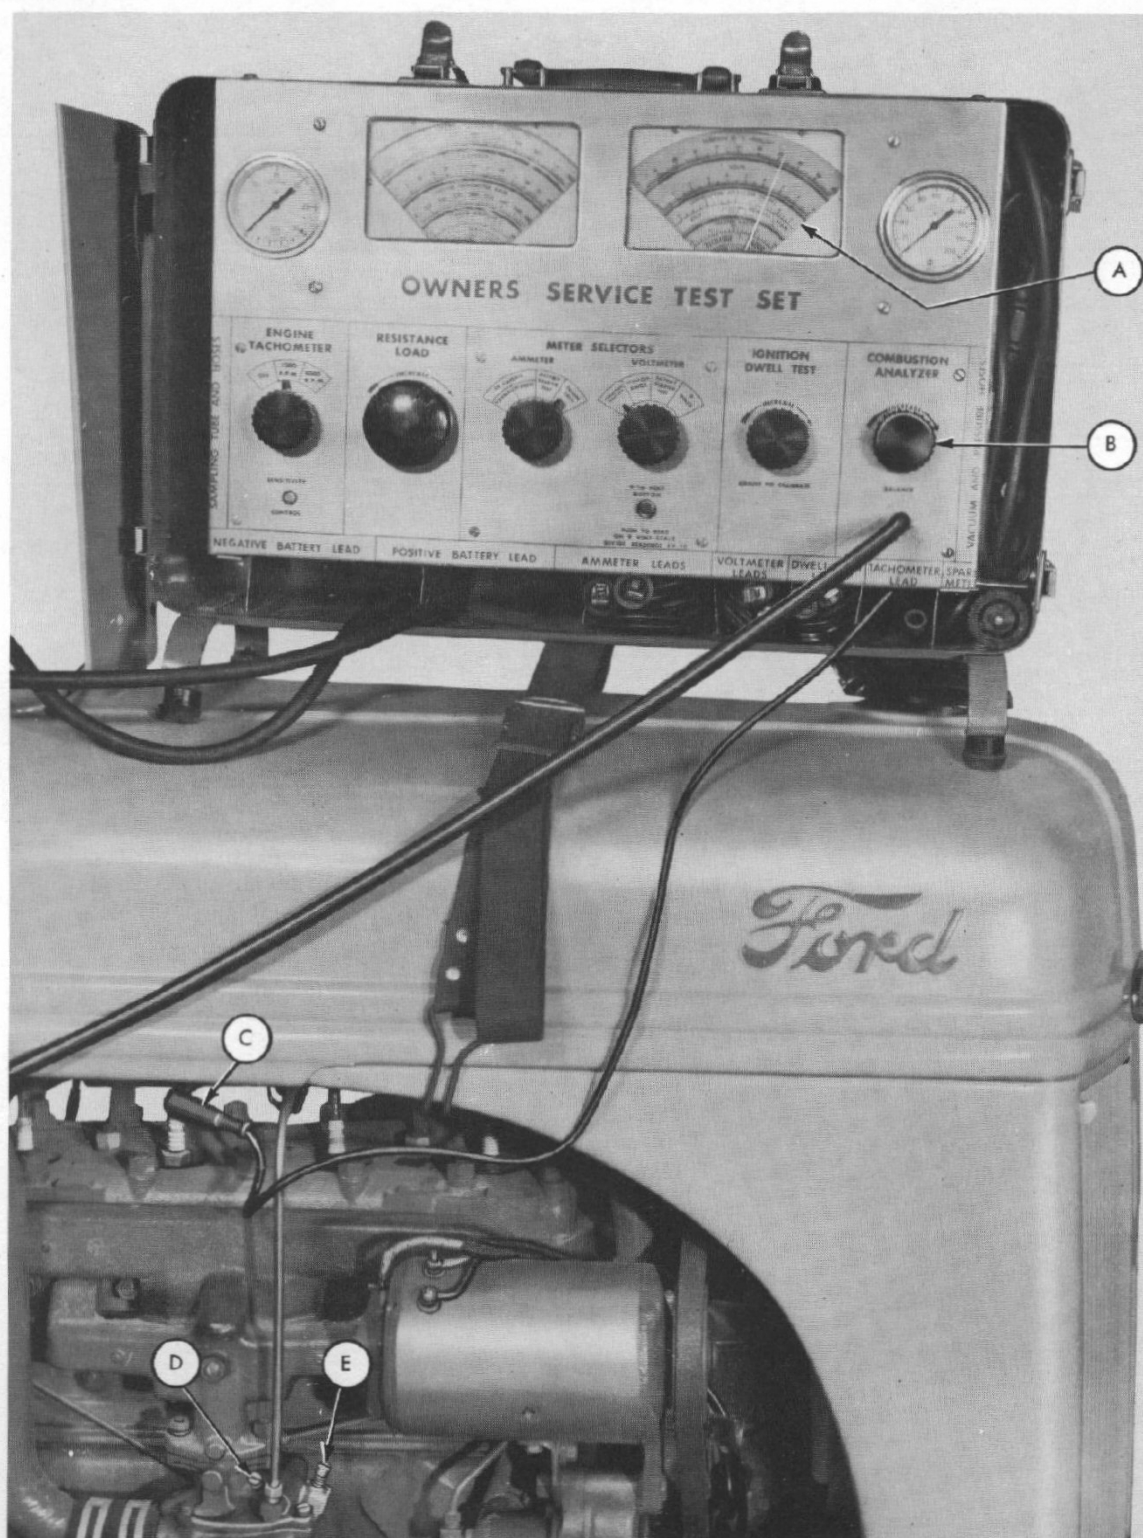

Fig. 17
- Step 2—Attach the tachometer lead to one of the spark plugs as shown at (C-Figure 17).
- (A-Figure 17) by adjusting the combustion analyzer knob (B-Figure 17) to the balance point on the scale.
- Step 6—Open the carburetor main jet (E-Figure 17) one full turn to assure a rich mixture of fuel.
- Step 7—Adjust the carburetor idle jet (D-Figure 17) in or out until the highest stable reading is noted on the tachometer.
- Step 9—Check the reading on the combustion analyzer meter (A-Figure 17).
- Step 10—Adjust the carburetor main jet (E-Figure 17) to the point where the best performance is obtained and the pointer falls in the NORMAL section on the meter (A-Figure 17).
- Step 12—Adjust the idle jet (D-Figure 17) to compensate for richness or leanness of the fuel mixture indicated by the performance of the engine and tachometer.